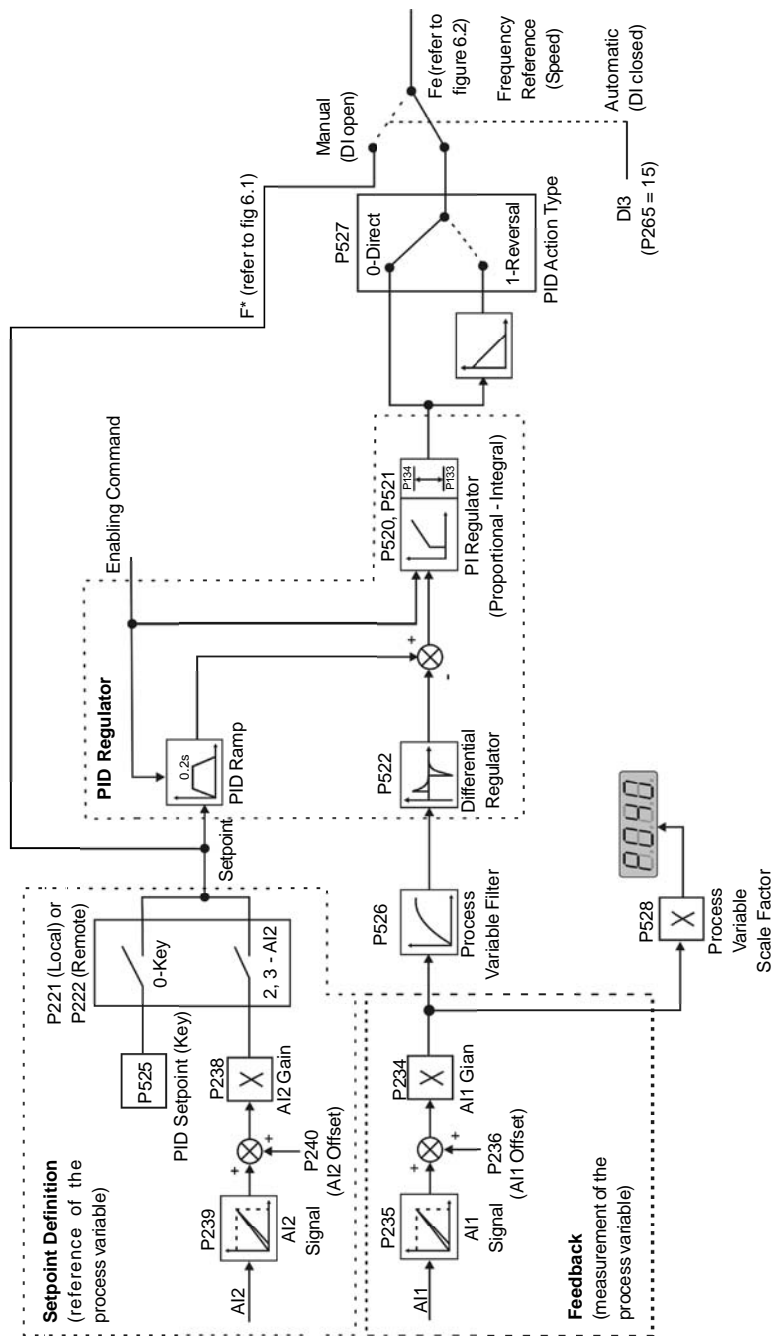

Figure 6.27 - Block diagram of the PID regulator function
- ☑ Figure 6.27 shows the block diagram of the PID regulator.